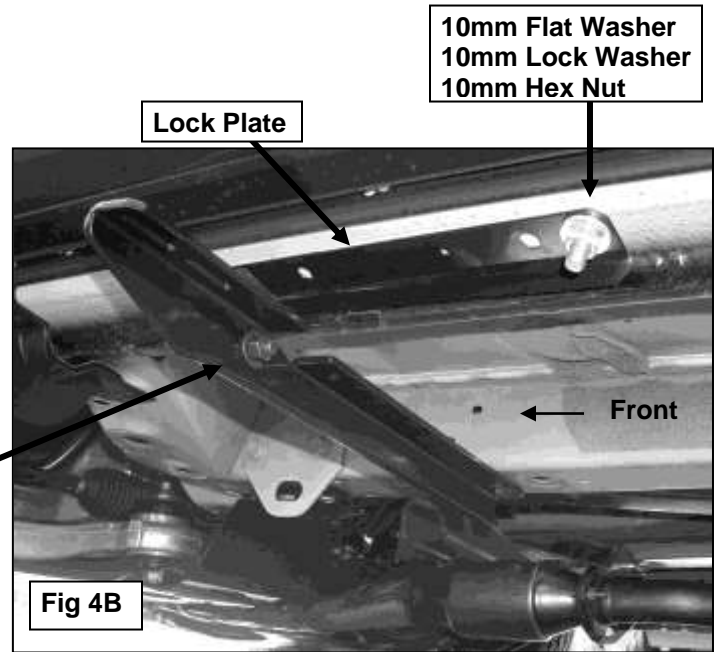

Fig 4B
4. Select (1) Support Bracket and the driver side front Mounting Bracket, **(Figure 4A)**. Attach the long side of the Support Bracket to the front of the Mounting Bracket with (1) 10mm x 30mm Hex Bolt, (2) 10mm Flat Washers, (1) 10mm Lock Washer and (1) 10mm Hex Nut, **(Figure 4B)**. **NOTE:** Tab on Support Bracket will face forward. Leave hardware loose at this time.